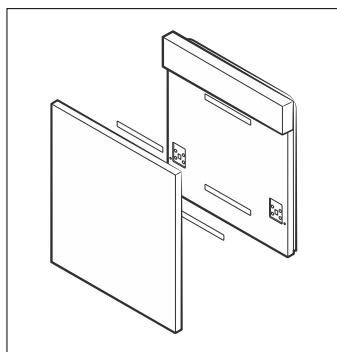

Fig. 15a
- Put the cover plate on the door of the dishwasher (Fig. 15a).